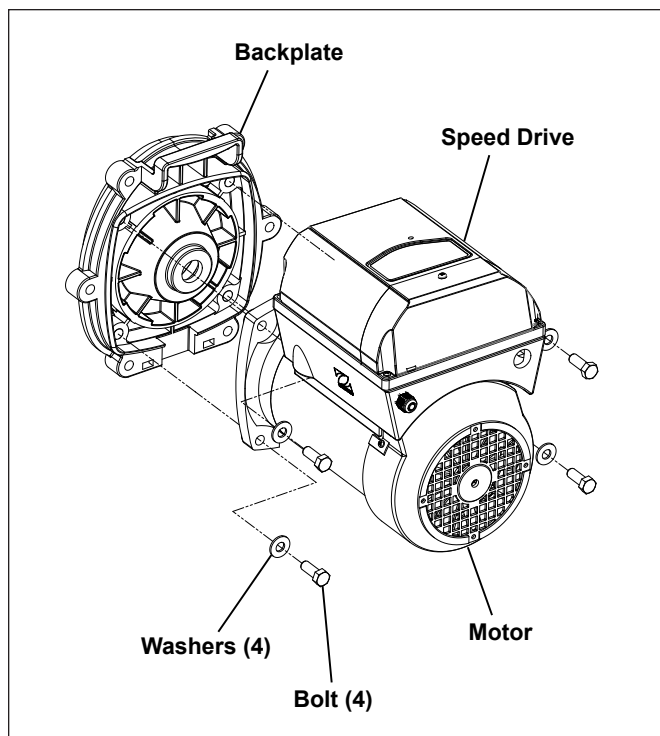

Figure 20. Backplate Assembly
3. Note the alignment of the backplate to the motor, as shown in Figure 20. Place the backplate motor assembly o-ring side down, unscrew the four 9/16" screws, and remove the motor.
5. Replace the four (4) bolts and washers holding the backplate to the motor and torque to 15 foot-pounds. See Figure 20.